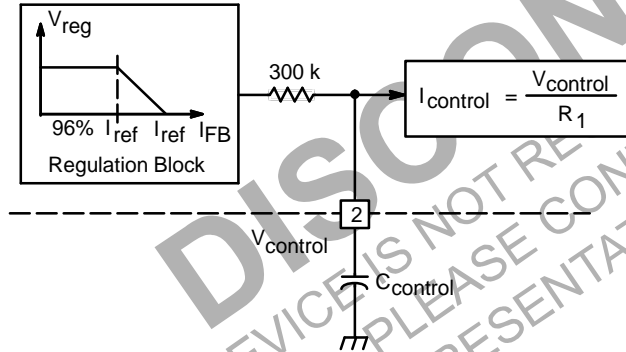
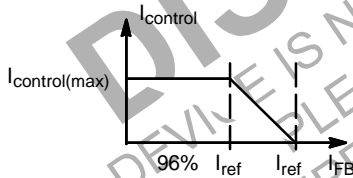

Figure 30. $V_{control}$ Low-Pass Filtering
Figure 32. Regulation Block
Control current $I_{control}$ is a roughly constant current that comes from the PFC output voltage V_{out} that is a slowly varying signal. The bandwidth of $I_{control}$ can be additionally limited by inserting an external capacitor $C_{control}$ to the control voltage $V_{control}$ pin (Pin 2) in Figure 30. It is recommended to limit $f_{control}$, that is the bandwidth of $V_{control}$ (or $I_{control}$), below 20 Hz typically to achieve power factor correction purpose. Typical value of $C_{control}$ is between 0.1 μF and 0.33 μF .
Feedback current I_{FB} which represents the output voltage V_{out} is processed in a function with a reference current ($I_{ref} = 200 \mu A$ typical) as shown in regulation block function in Figure 32. The output of the voltage regulation block, low-pass filter on $V_{control}$ pin and the $I_{control} = V_{control} / R_1$ block is in Figure 30 is control current $I_{control}$. And the input is feedback current I_{FB} . It means that $I_{control}$ is the output of I_{FB} and it can be described as in Figure 32. There are three linear regions including: (1) $I_{FB} < 96\% \times I_{ref}$, (2) $96\% \times I_{ref} < I_{FB} < I_{ref}$, and (3) $I_{FB} > I_{ref}$. They are discussed separately as follows: